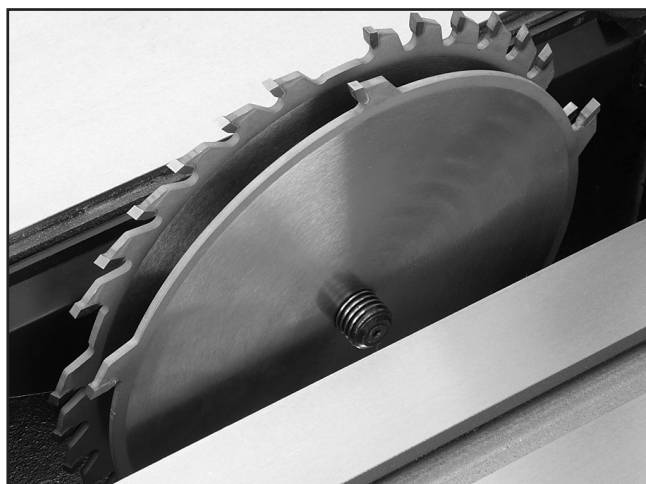

Figure 3. Chipper teeth offset from the outside blade teeth.
- Make sure the teeth of the chippers align with the gullets of the outside blades and all of the teeth are offset (see **Figure 3**).